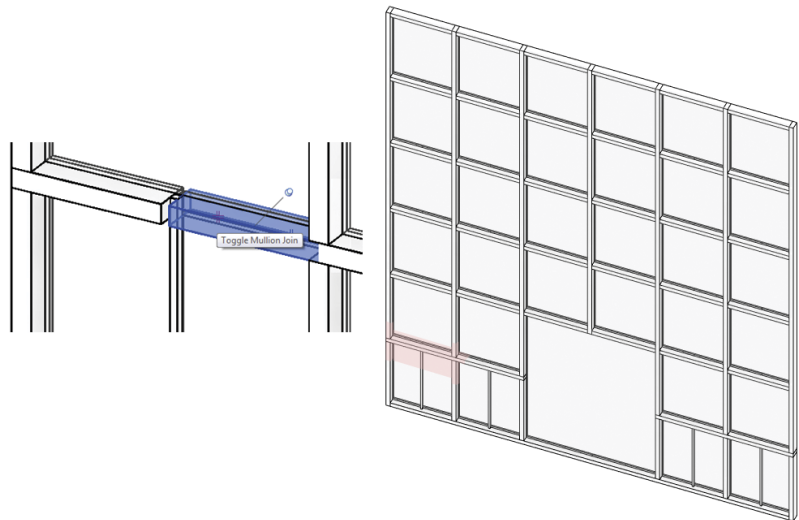

FIGURE 2.30 Finished mullions
8. Next, select the perpendicular curtain mullions above and below the new 1" Square mullions (use the Ctrl key to add multiple items to the same selection set), and on the Mullion panel on the ribbon click Make Continuous (or click the Toggle Mullion Join symbol shown in Figure 2.30). This will toggle the mullion join at each location. The final model should look similar to Figure 2.30.